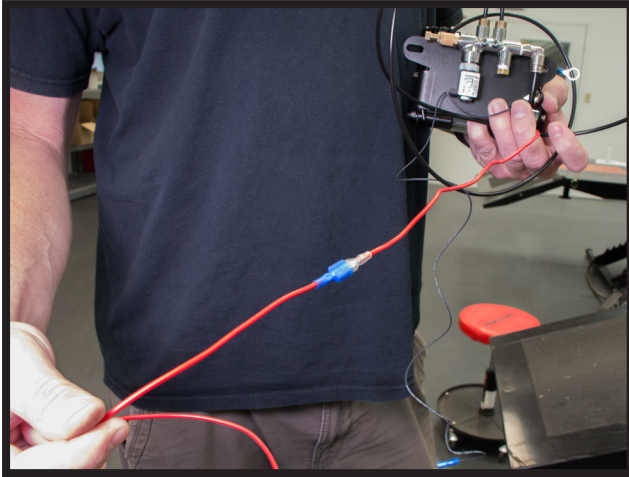

FIGURE 7
3. ATTACH THE PUMP WIRE EXTENDER TO THE RED PUMP WIRE. BUNDLE THE SPLIT LOOM AROUND THE TWO 4MM HOSES, THE RED PUMP WIRE AND THE MANIFOLD WIRE USING THE INCLUDED ZIP-TIES. (FIGURES 7, 8, 9)